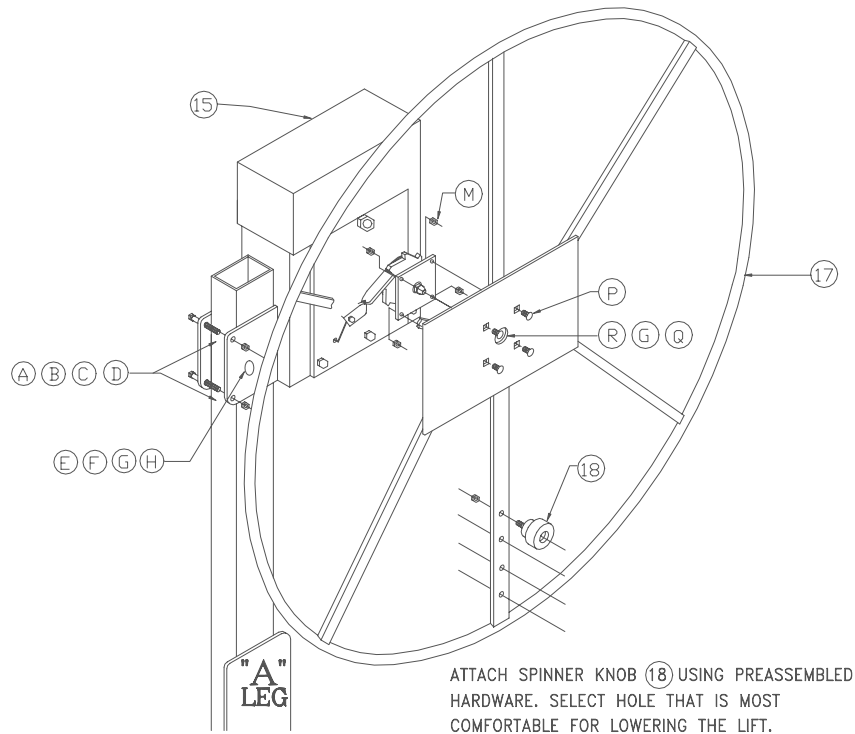

Figure 3-9
- Refer to Figure 3-9. Clamp winch to vertical leg "A". Mount the winch such that any optional canopy cover will not interfere with removing and replacing the winch cover.